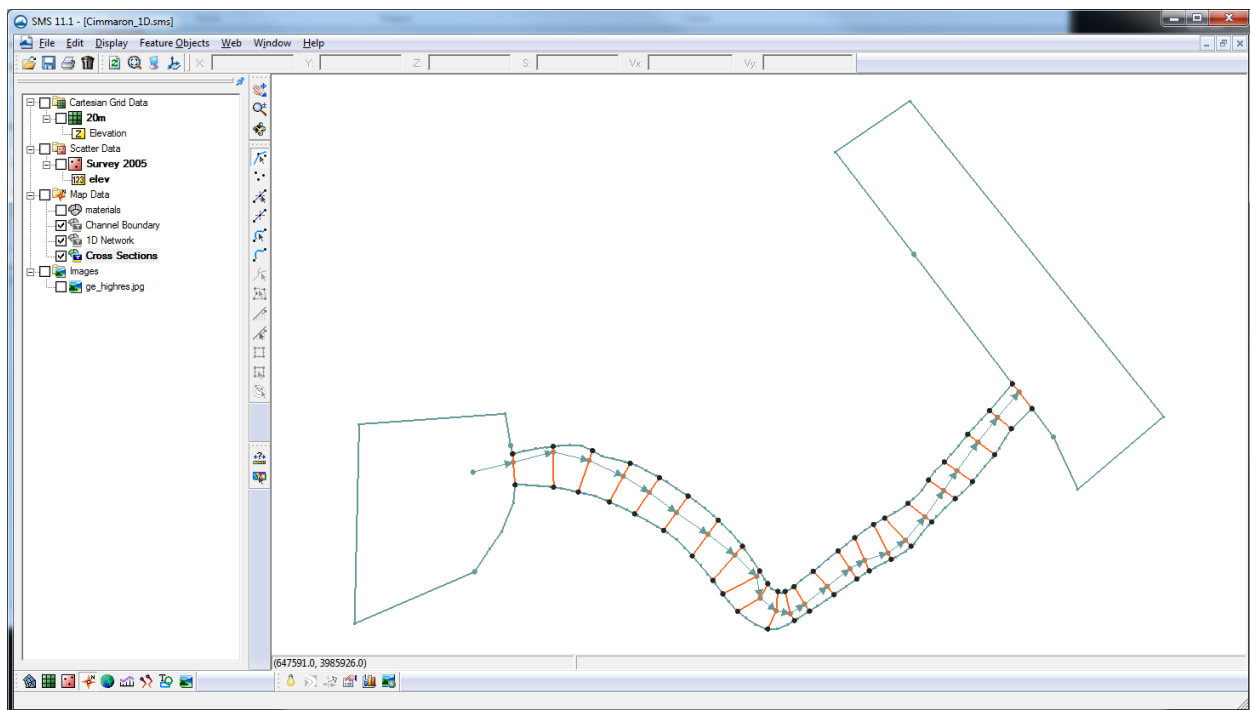

Figure 10 Final Trimmed Cross Section Arcs
1. Right click the coverage labeled "Cross Sections" and choose the *Trim to Code Polygon* option. This will trim the cross-sections to the code polygons in a boundary condition coverage. Since we only have one boundary condition coverage, it will be used automatically. (If you are working with a project that uses more than one such coverage, a dialog will appear to choose a coverage.) When you are done the cross sections should look like Figure 10.